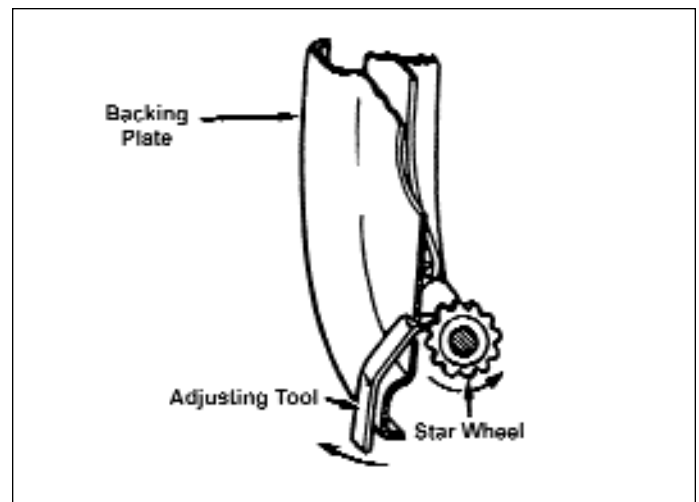

Figure 9 - Brake Shoe Adjustment
- Rotate rear brake drum so that brake adjustment or inspection hole is at the top. Using a brake spoon or brake adjustment tool with a flat end, reach through the inspection hole and rotate the brake adjuster several notches. See Figure 9.